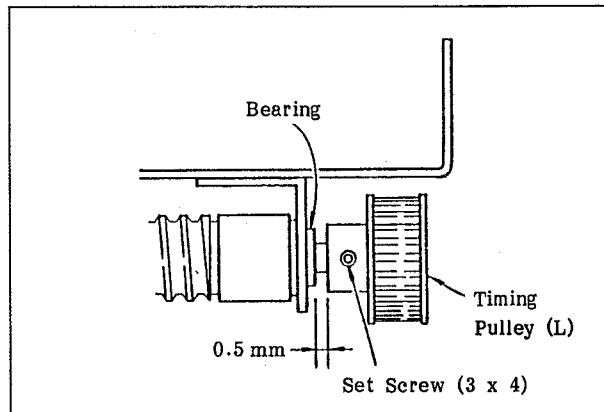

Fig. 6-37 Attaching the Timing Pulley
7. Insert a 0.5 mm thickness gauge between the bearing and the timing pulley as shown in Figure 6-37, and fasten the timing pulley by securing with the two set screws (3 x 4) while pushing the timing pulley towards the bearing.